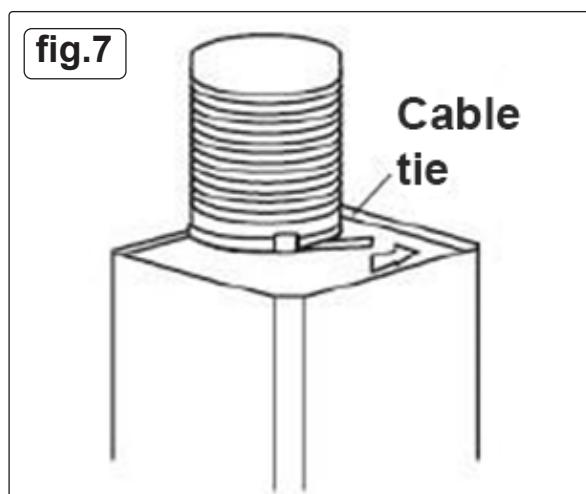

fig.7
- Offer the expansion pipe to the wall outlet. Fix the expansion pipe with the cable tie on the wall-outlet, fig.7.